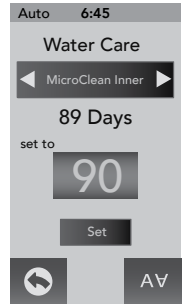

Figure 12.7f
A programmable filter timer can be set to remind you when to replace the MicroClean Inner Filter. Tap ► (Figure 12.7e) until you reach the “MicroClean Inner” tab to enter the Programming Menu, Figure 12.7f.
- From the “Water Care” Menu you can to set the MicroClean Inner timer, Figure 12.7f.